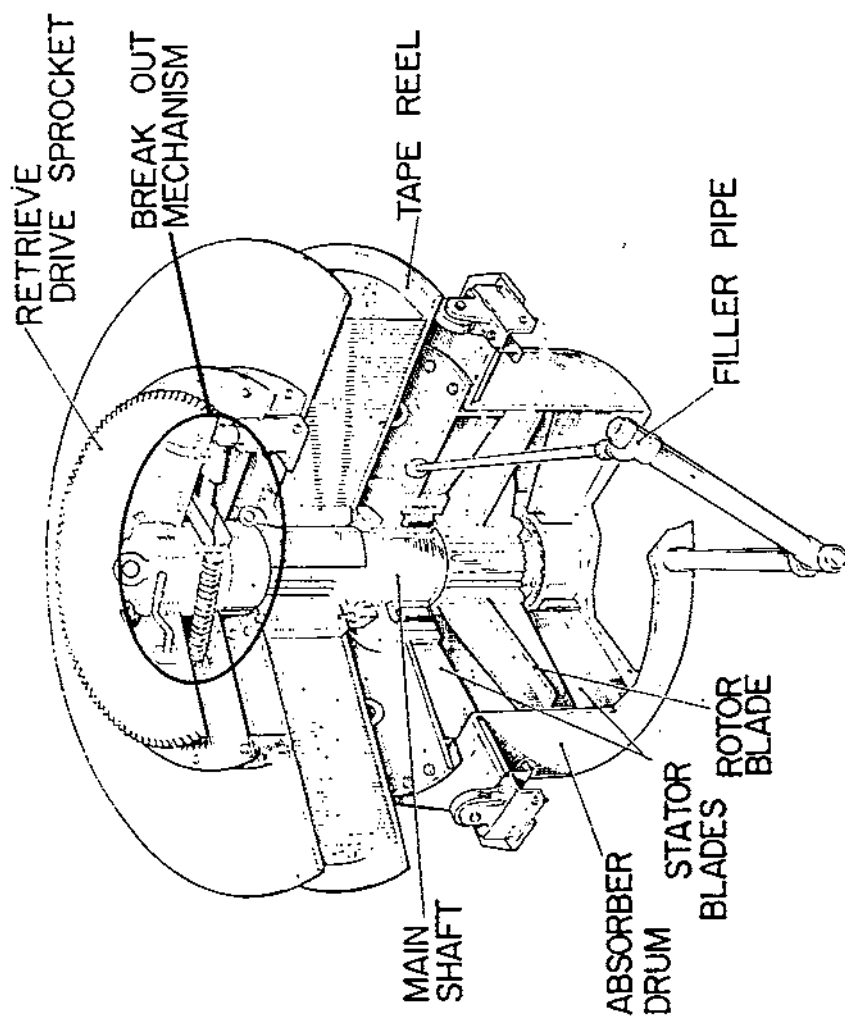

Figure 2. The Energy Absorber Unit drum with the tape reel and the retrieve drive sprocket mounted above it.
c. The energy absorber drum. The drum forms the base of the EAU. It contains a 40:60 mixture of water and ethylene glycol. Rotor blades mounted on the EAU shaft are free to rotate in the fluid. Stator blades mounted inside the drum casing improve the hydraulic efficiency of the system. Figure 2 shows the detail.
The retrieve assembly is automatically disconnected from the remainder of the gear during an arrest. The "break out" mechanism which does this lies between the tape reel and the retrieve sprocket (See fig 2).